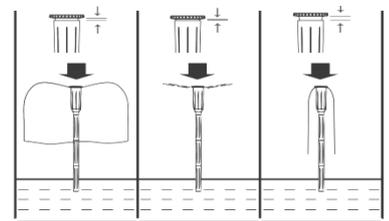

Fig 2
- e) To properly install the apple fountain head, the fountain head should be lifted to a position above the water surface far enough to allow forming an ideal apple shaped fountain. To adjust the size of the apple fountain sphere, vary the water discharge gap by pressing or lifting the nozzle top piece, as shown in Fig 2. The larger the discharge gap, the smaller the apple sphere.